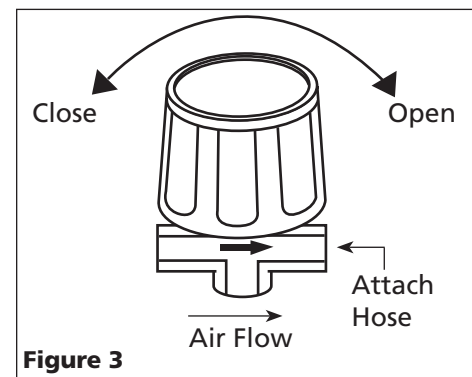

Figure 3
1. Turn regulator knob fully clockwise (See Figure 3).